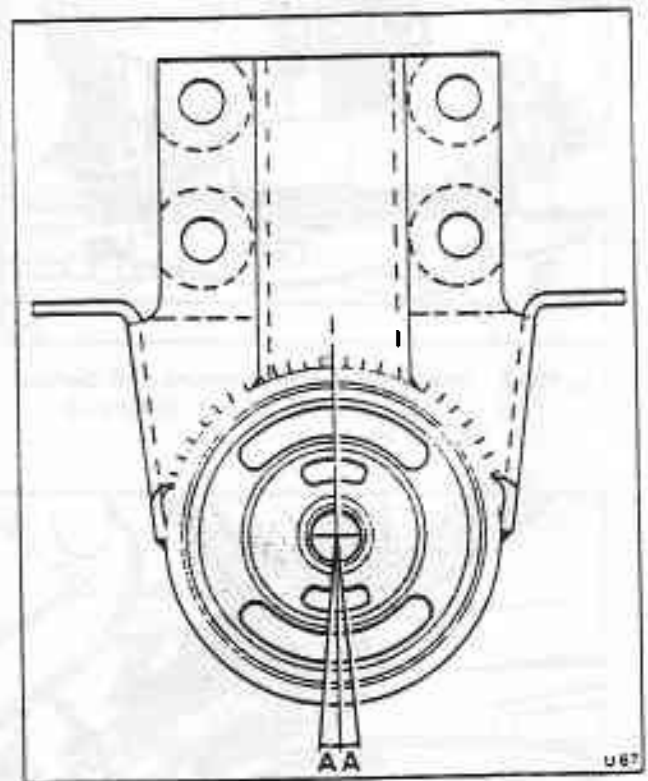
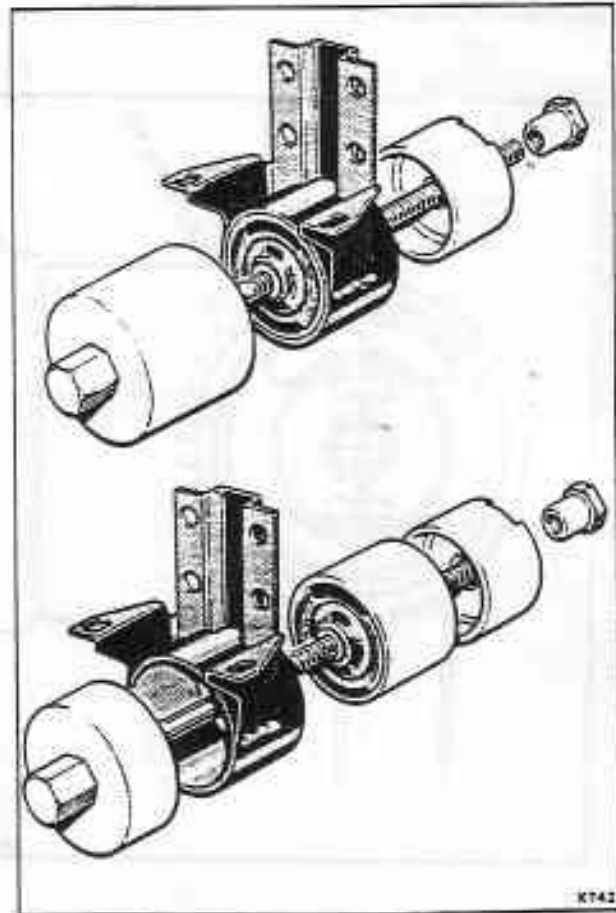

Fig. H8-2 Final drive mount alignment
Fig. H8-5 Mount extraction and insertion tool
RH9291 onto the mount (see fig. H8-5). Tighten the draw bar until the mount is withdrawn from the crossmember. Remove the old mount and the extraction cup from the tool.
11. Remove the mount from its housing using the extraction components of tool RH9291 (see fig. H8-5).
13. Fit a new mount into the housing using the insertion components of tool RH9291 (see fig. H8-5). Ensure that the slots in the mount are positioned as shown in figure H8-2.